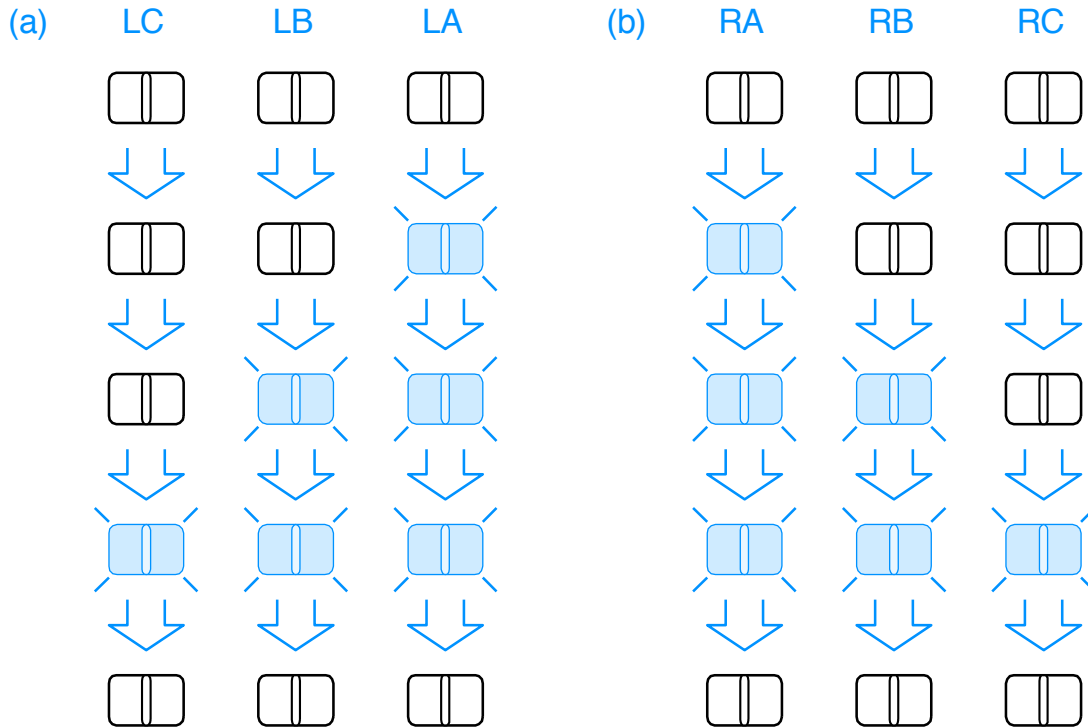

Figure 2. Flashing Sequence (shaded lights are illuminated)
In this lab, you will design a finite-state machine to control the tail lights of a 1965 Ford Thunderbird. There are three lights on each side that operate in sequence to indicate the direction of a turn. Figure 1 shows the tail lights and Figure 2 shows the flashing sequence for (a) left turns and (b) right turns.¹
- When you press **left**, you should see LA, then LA and LB, then LA, LB, and LC, then finally all lights off again. This is illustrated in Figure 2 (a).
- When you press **right**, you should see RA, then RA and RB, then RA, RB, and RC, then finally all lights off again. This is illustrated in Figure 2 (b).